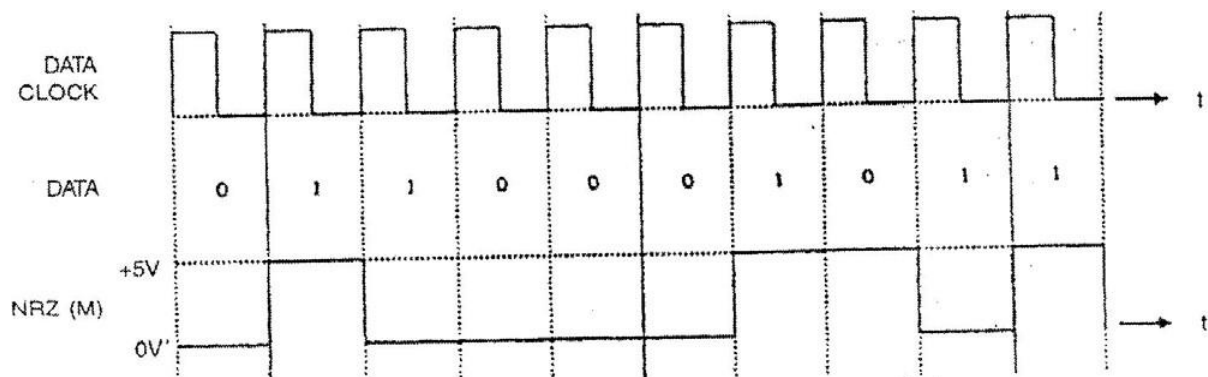

Fig 2: NRZ (M) waveform for a given data stream.
Thus, in the case of the NRZ (M) waveform, the present level is related to the previous levels. See figure 2. Thus, no longer is the absolute value of the signal necessary